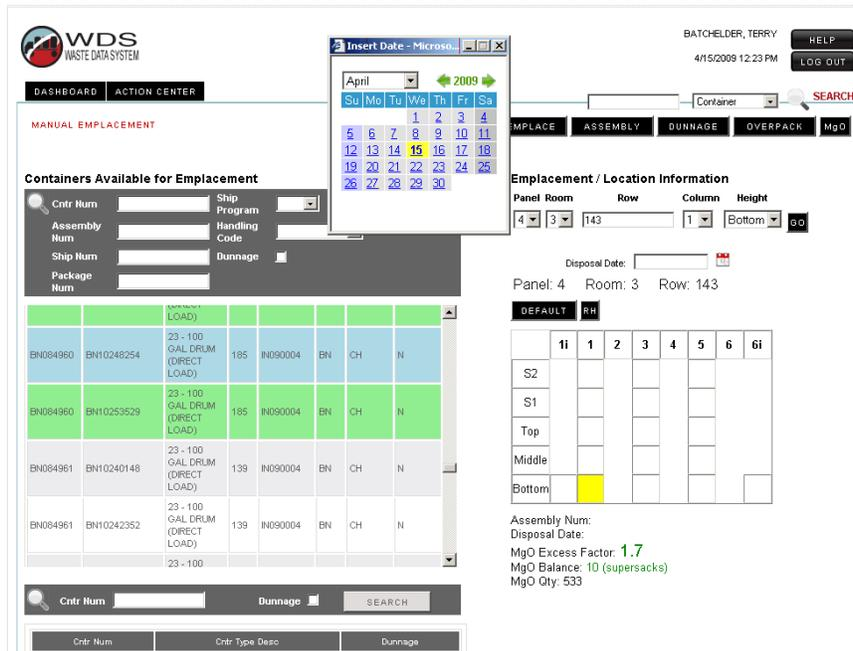

Figure 5-3 - CH Screen for Waste Emplacement
- A. Select the container number within the Container Available for Emplacement screen (left side) as shown in Figure 5-3.
- C. Select the Disposal Date from the calendar, as found in Figure 5-3.
- Select the Disposal Date from the calendar, as found in Figure 5-3.